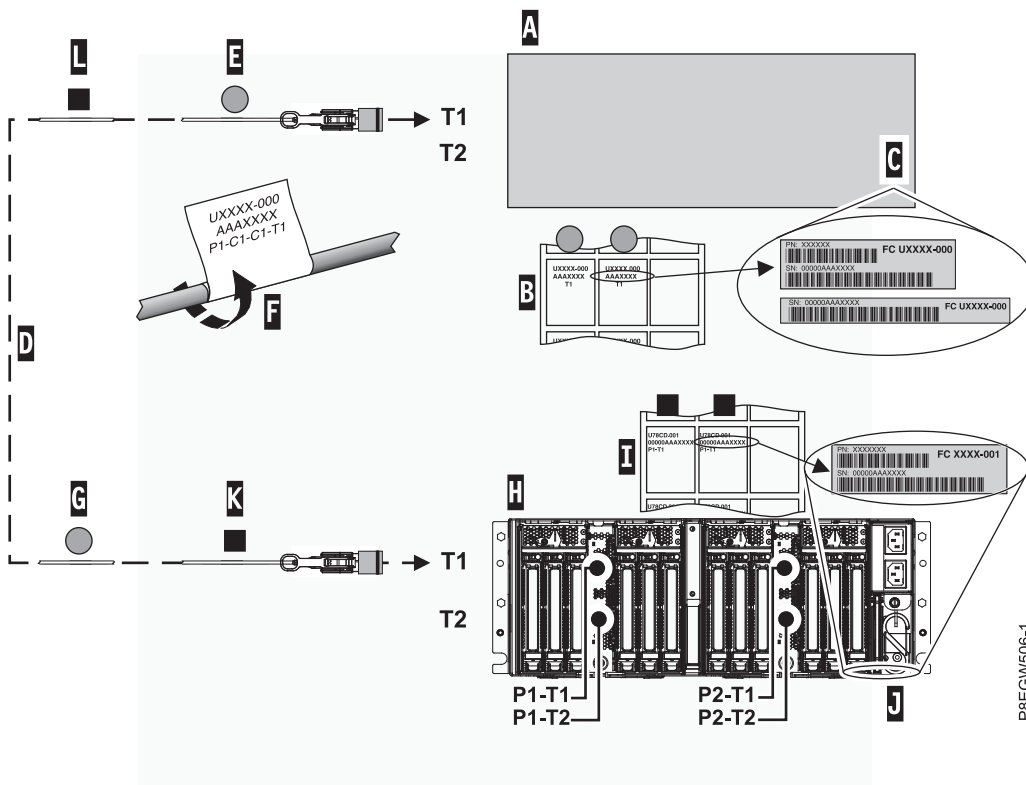

Figure 19. Labeling an expansion drawer cable
Note: While you are completing these steps, refer to Figure 19 on page 26 as a reference.
- g. Attach the leftmost Cx-T1 label to the connector end of the cable (E). See Figure 19. Wrap the label with the blank end first so that the location information (F) is visible.
- h. Take the second label Cx-T1 from the host system label sheet (B) and place it on the opposite end of the cable that attaches to the PCIe3 expansion drawer. Ensure that the label is placed more than 100 mm (4 in) from the end of the cable (G). See Figure 19.
Note: While you are completing these steps, refer to Figure 19 as a reference.
- f. Attach the leftmost P1-T1 label to the connector end of the cable (K). See Figure 19. Wrap the label with the blank end first so that the location information (F) is visible.
- g. Take the second P1-T1 label from the expansion drawer label sheet and place it on the opposite end of the cable greater than 100 mm (4 in) from the end of the cable (L). See Figure 19.